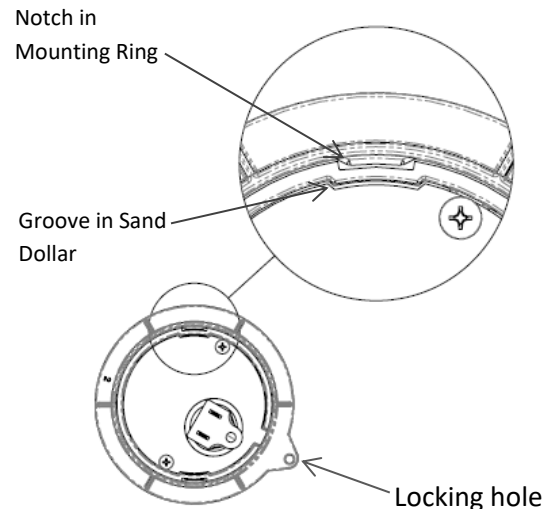

FIG 2
- 3-** Insert the Sand Dollar through the cutout from above and position as desired. Align grooves in Sand Dollar with notch in mounting ring, as shown in FIG 2, and slide Mounting Ring upward until it comes in contact with underside of table. Rotate Mounting Ring clockwise, ensuring notch engages with uppermost thread, and tighten until Sand Dollar is secure in hole.